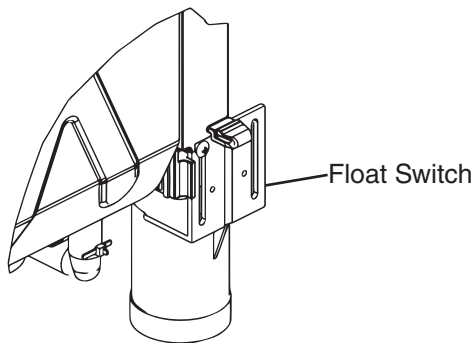

Fig. 5
- 5) Remove the water tank. Next, remove the screw securing the FS, then remove the FS. See Fig. 5.